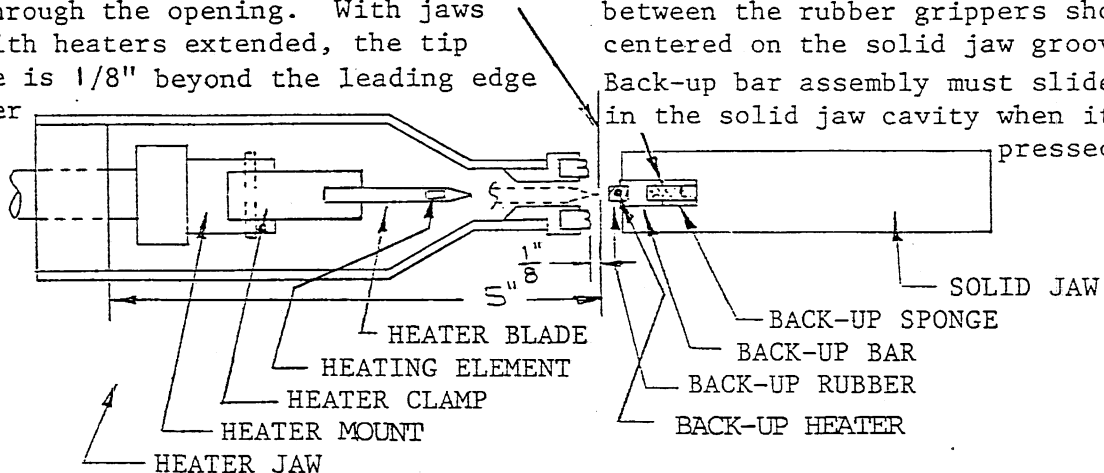

FIG. 27 JAW CONFIGURATION DETAILS
5.3 JAW CONFIGURATION Figure 27 illustrates the necessary relationships between jaw plate opening, solid jaw groove and heaters.